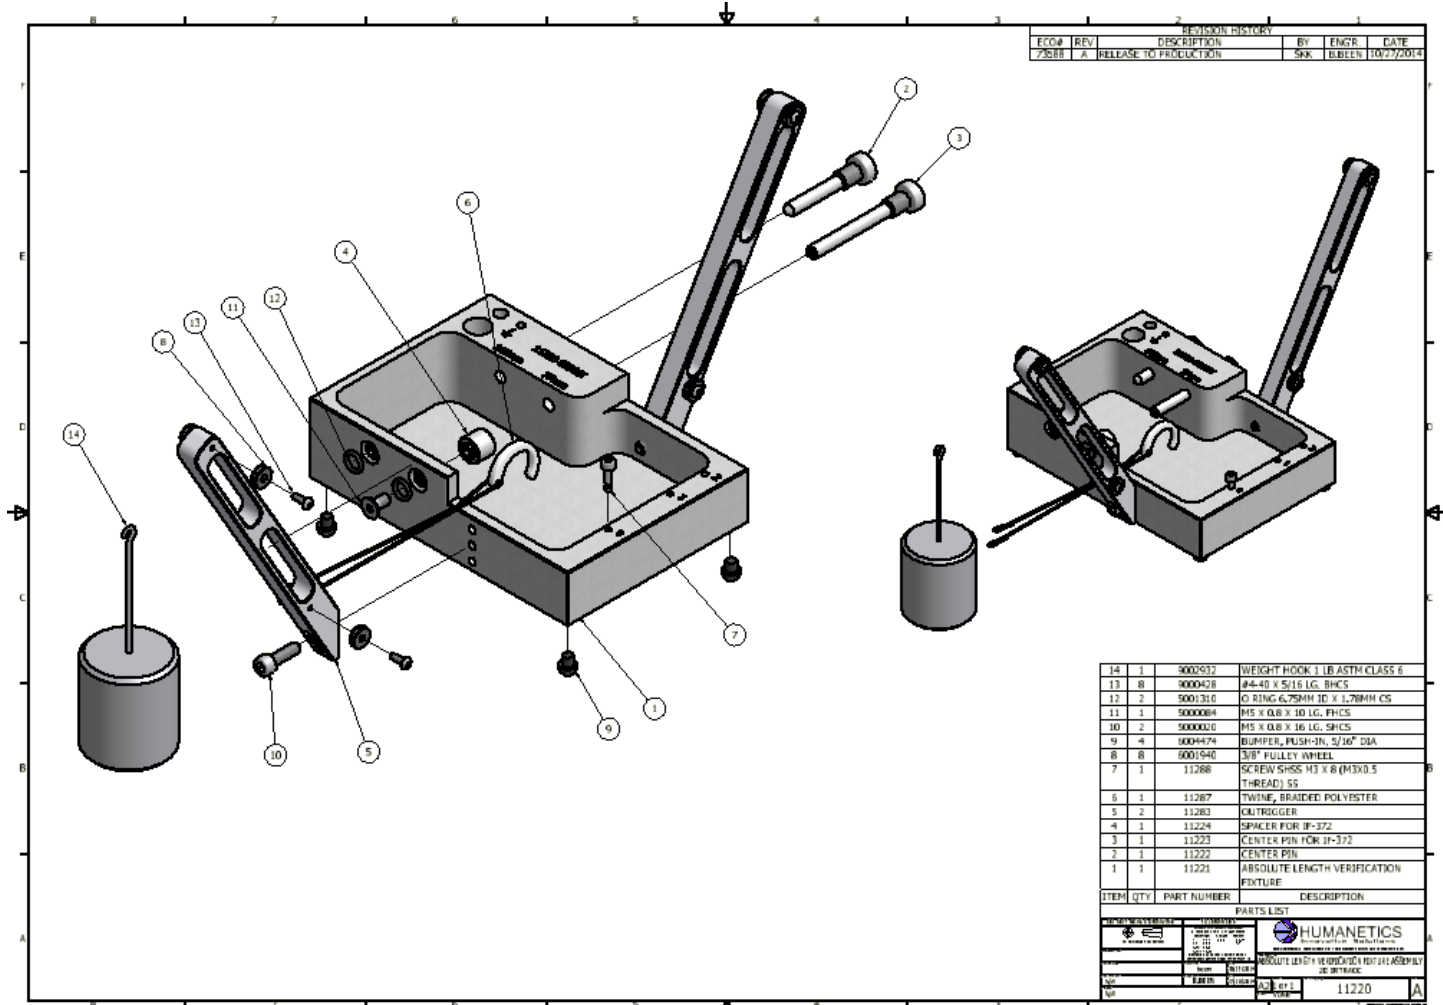

Figure 1 Reference Fixture part# 11220
- Reference Fixture part #11220 (Figure 1);
- Secure the rod end bearing in Pos0 (Table 3) with the 3mm screw part# 11288 (Figure 1, item 7) and fasten until secure.